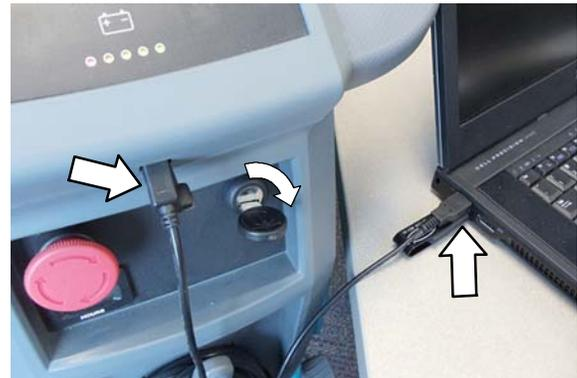

Fig. 13
4. Connect the USB cable to computer and to the USB port on machine as shown. Turn the key switch to the on position (Figure 13).